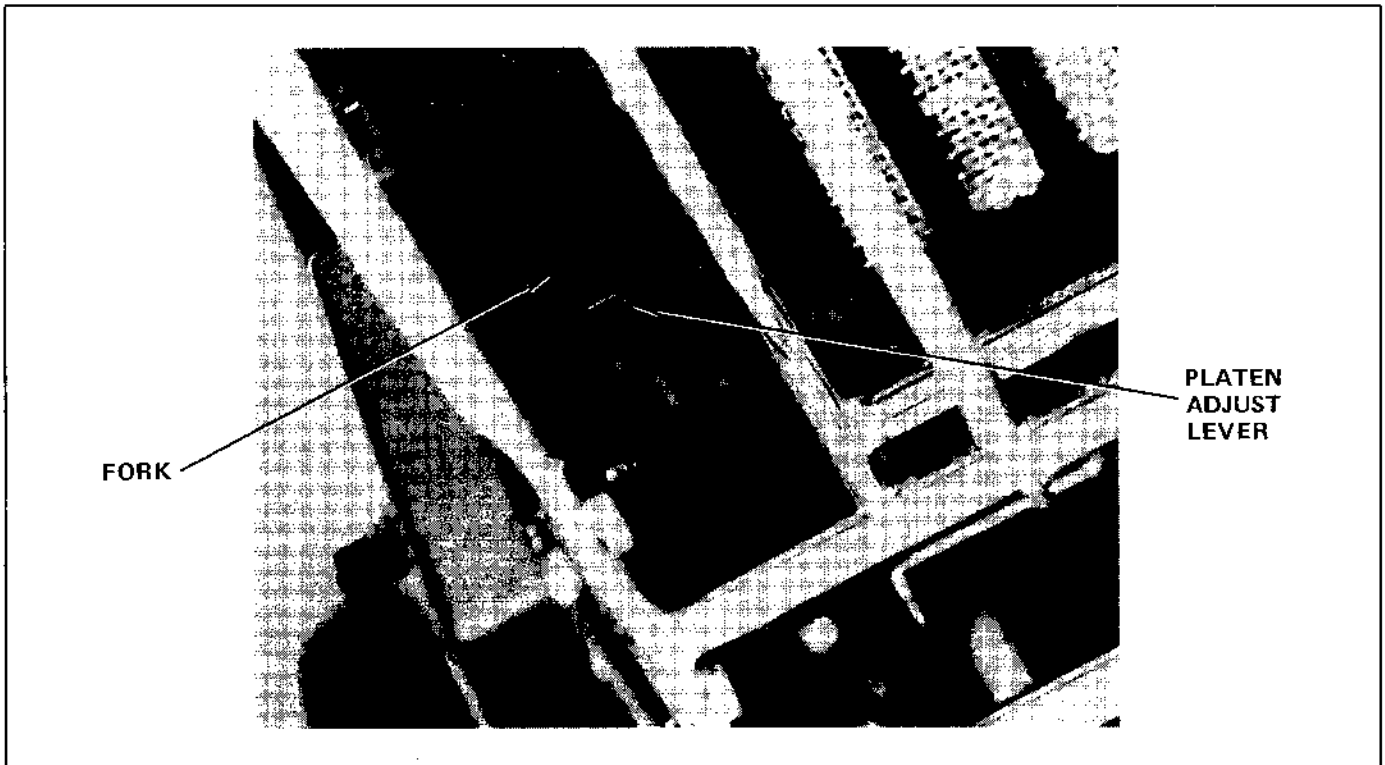
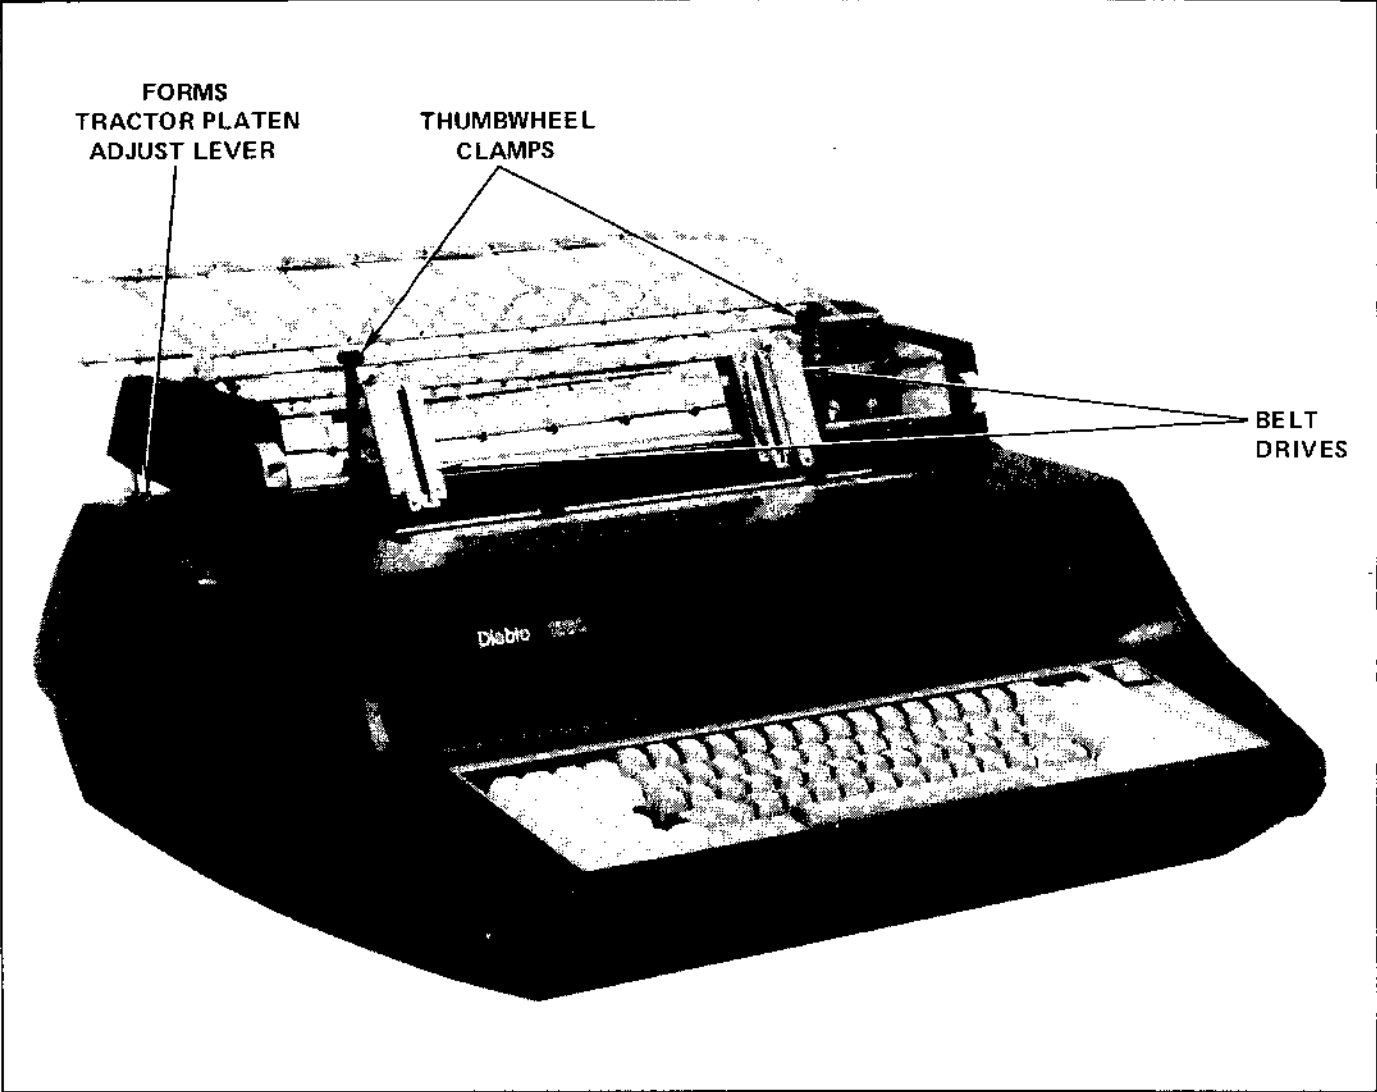

Figure 2-13. Forms Tractor and Platen Adjust Lever
Figure 2-16. Forms Tractor Installed
- (3) Position the fork on the inside left end of the forms tractor around the platen adjust lever, as shown in Figure 2-13.
- (7) Verify that operating the forms tractor platen adjust lever (Figure 2-16) moves the printer platen adjust lever (Figure 2-13).
- (8) Adjust the two belt drives to the appropriate form width by loosening the thumbwheel clamps and sliding the drive sideways until the desired position is reached (Figure 2-16).